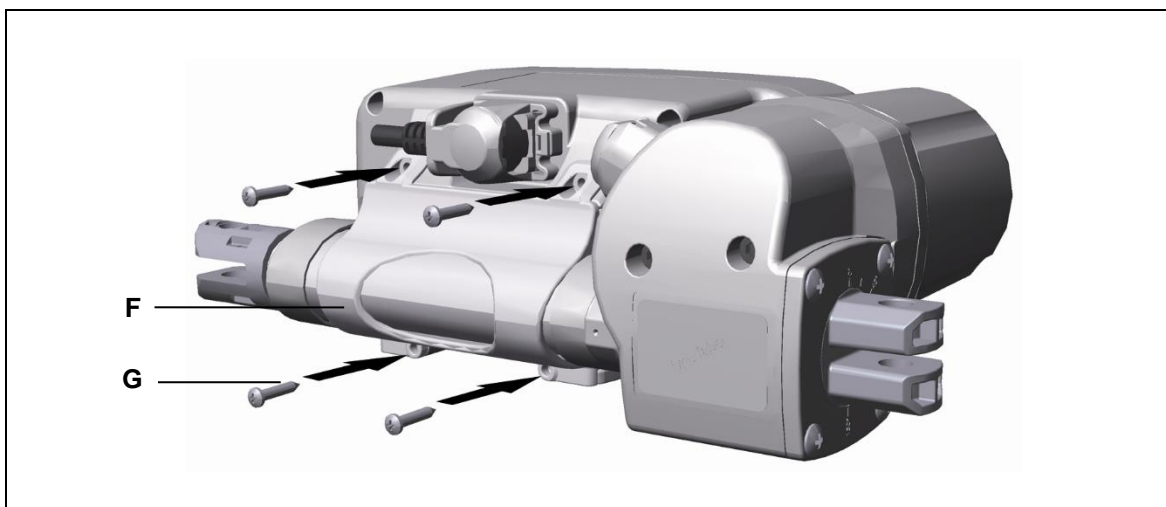

Figure 15 Mounting clip assembly
- 2 The motor casing cover of the MFZ drive must lie in the guide (C) as shown in Figure 15.
- 3 Screw the mounting clip (F) onto the MCL II control unit.